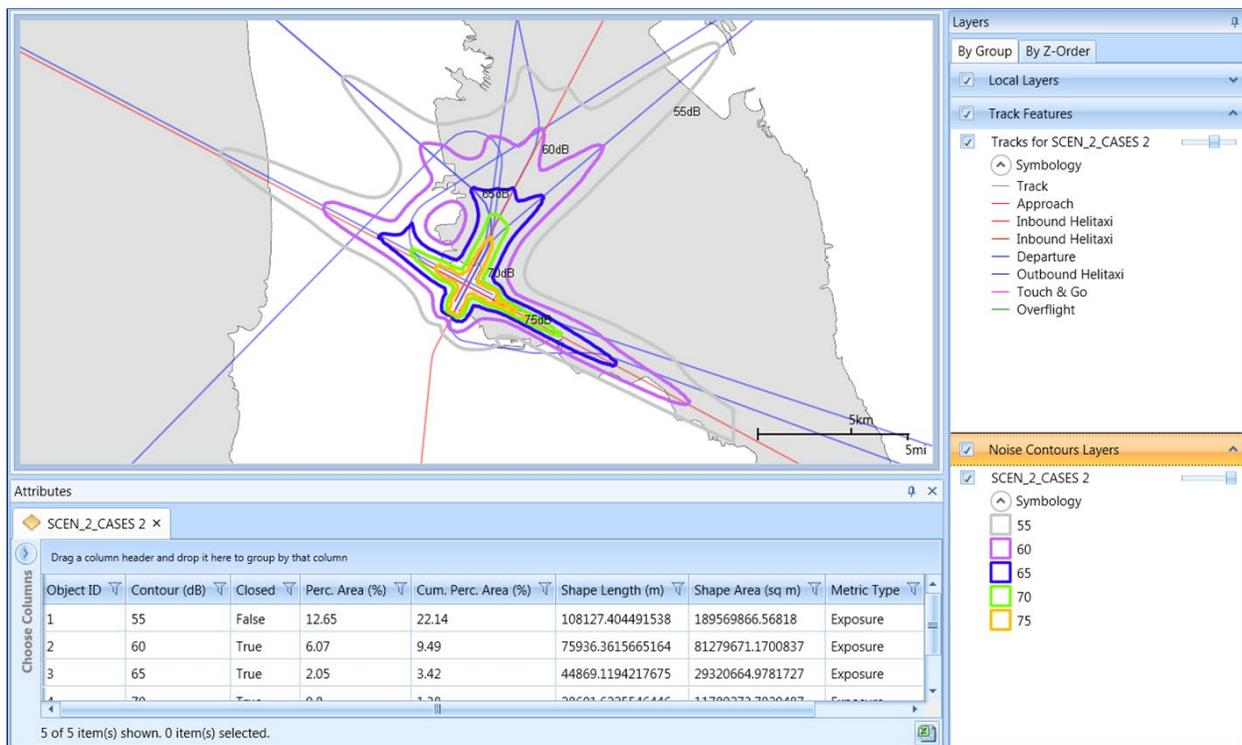

Figure 5-44 Sample Contour Layer with Attributes – Shown with Tracks
6. The contour layer is displayed on the map (Figure 5-44) and in the *Layers* manager.
The following attributes are available for contour layers: object ID, contour, closed, area percent, cumulative percent, shape length, shape area, metric type, and metric name (Figure 5-44). See Appendix B.3 for descriptions of the attributes. Perc. Area (%) and Cum. Perc. Area (%) columns are calculated based on the receptor set area or boundary (if used).